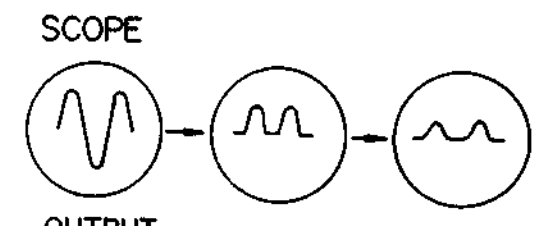

Fig. 4-7
- Step 4: Confirm that the output of the amplifier is decreased when temperature reaches 148°F ± 9°F. See Fig. 4-7. If the protection circuit does not operate properly, check the related circuitry.